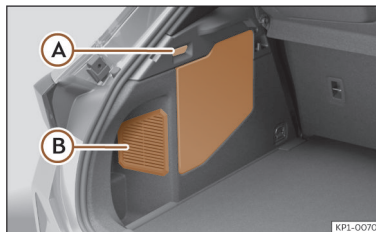

Fig. 233 Hybrid vehicles (PHEV): location of the battery in the luggage compartment
- Pull the handle **A** >>> **Fig. 233** to open the 12-volt battery protection cover.
Do not cover or cover the cooling grille of the 12-volt battery **B** >>> **Fig. 233**.